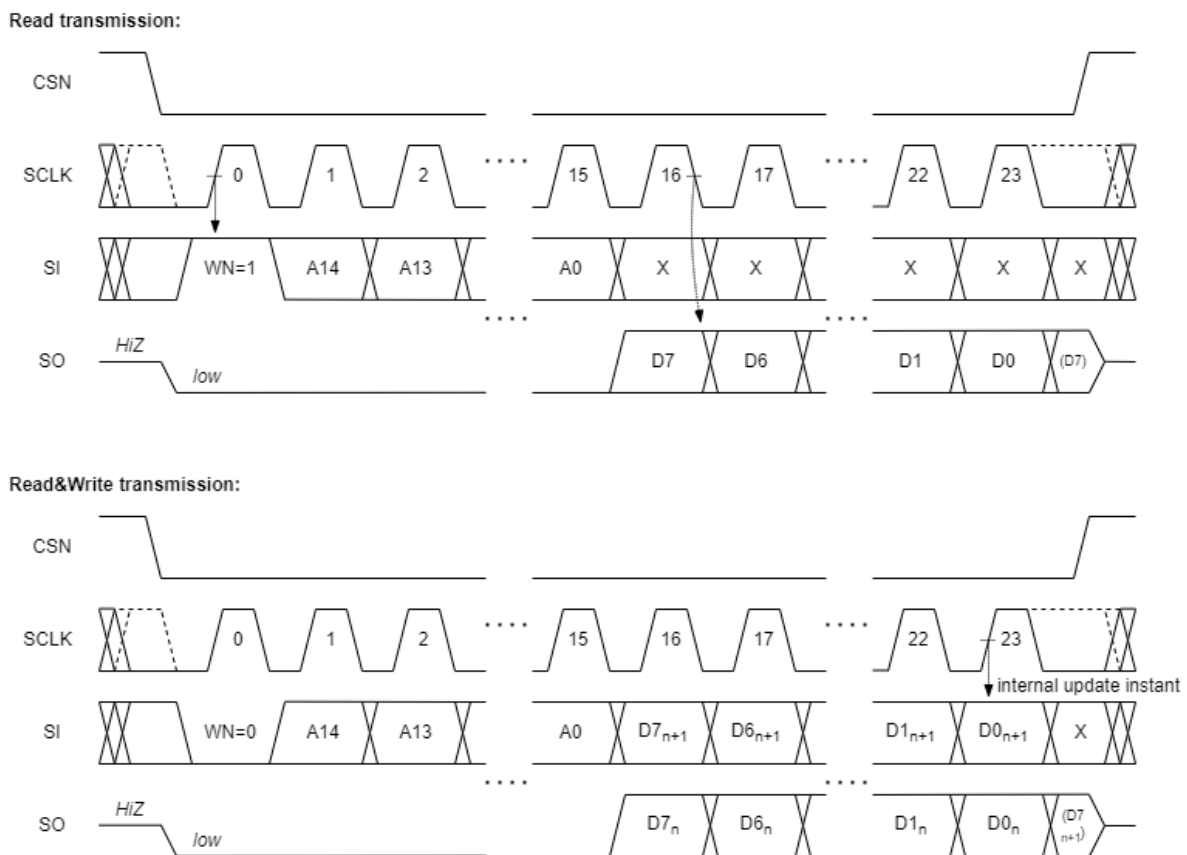

Figure 2 SPI transmission: read (top), read&write (bottom)
- SPI interface with 3 byte transmission to read (or read&write) one SPI register location, see timing diagram in Figure 2.